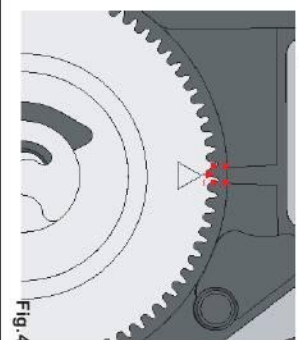

Fig.47
- ◆ The top of the triangle mark on the Moon phase indicator driving wheel should be set and aligned within the marked area on the Calendar plate as indicated in Fig.47